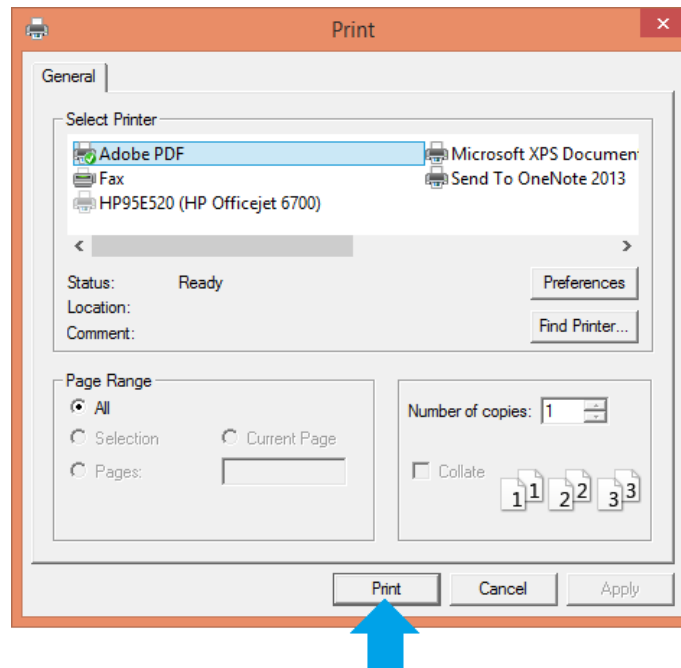

Figure 18 Selecting Printer Options
- When you click “OK” you will be prompted to select your printer. Click the “print” button and your formula will start printing. (Figure 18)